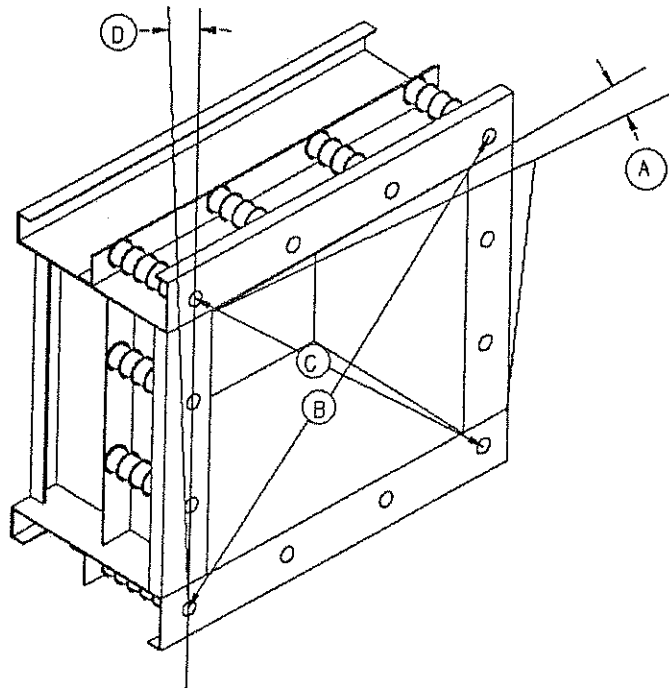

FIGURE 2
2. The wall thimble should be even (see Fig. 2). The concrete around wall thimble should be even and have a smooth surface.